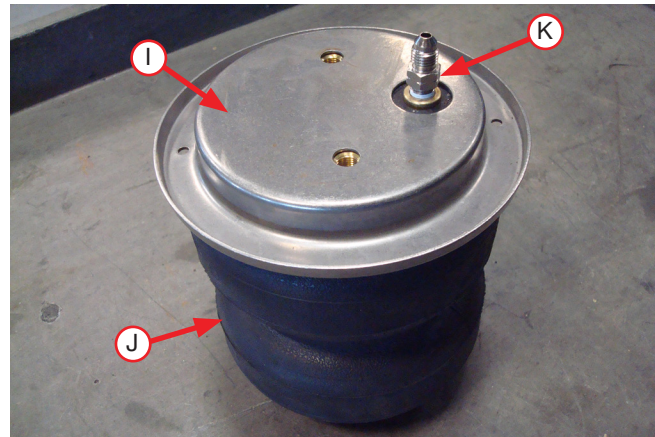

Fig. 15
1. Set a roll plate (I) onto the top of the air springs (J) and install the fittings (K) into the top of the air spring finger-tight. Tighten the fitting an additional 1 1/2 turns (Fig. 15).